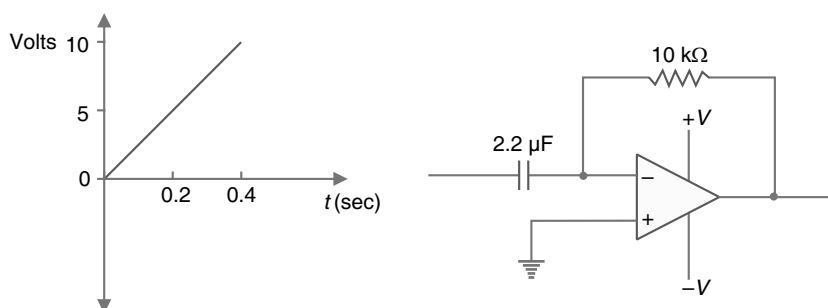

Fig. 23.91
**Example 23.55.** For the differentiator circuit shown in Fig. 23.91, determine the output voltage if the input goes from 0V to 10V in 0.4s. Assume the input voltage changes at constant rate.